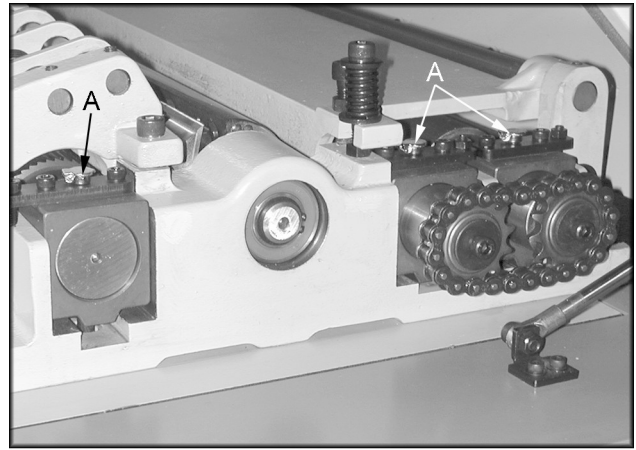

Figure 25
- Add a few drops of medium weight oil to the six oil cups (A, Figure 25) weekly or every eight hours of use (which ever comes first).